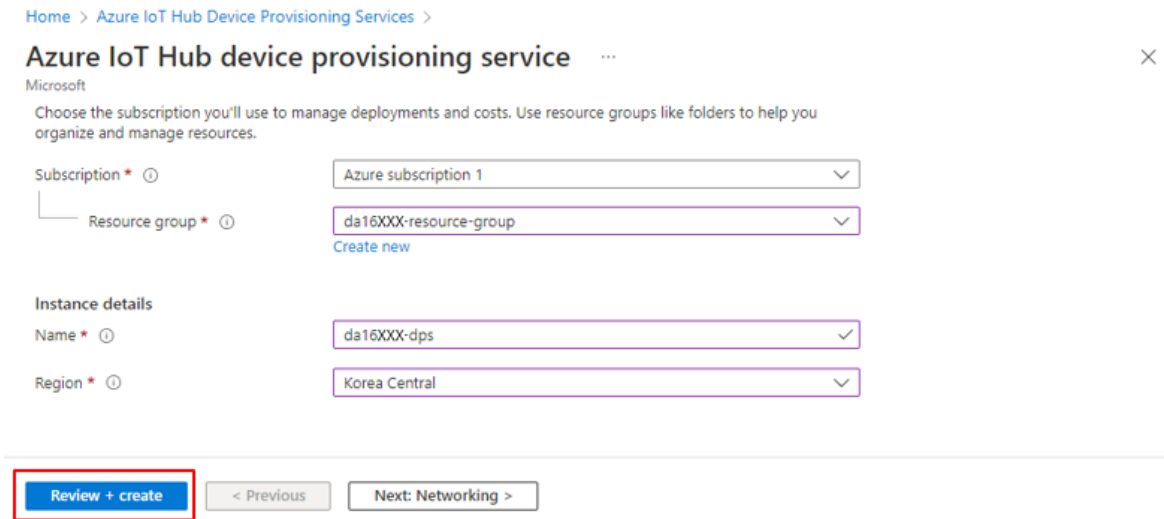

Figure 88: Configure Resource Group, Name, and Region
3. Configure the **Resource group**, **Name** and **Region** as shown in Figure 88, and then click **Review + create**.